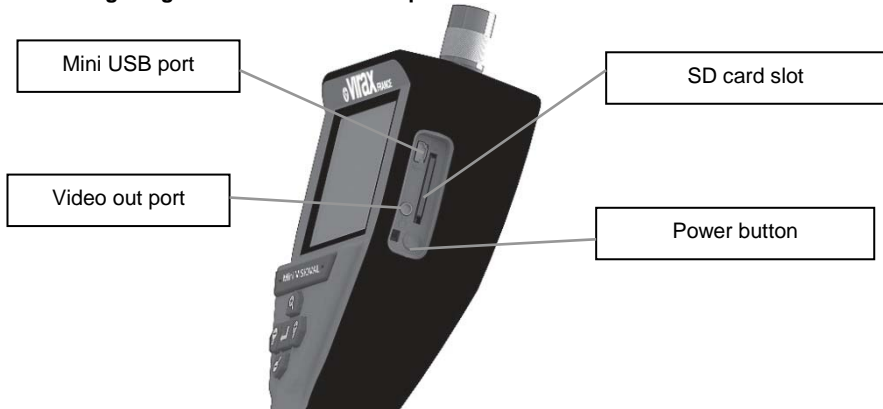

Figure 8 - USB connection for transfer
- 1- Use the mini USB cable to connect the mini VISIOVAL to the computer (Figure 8).